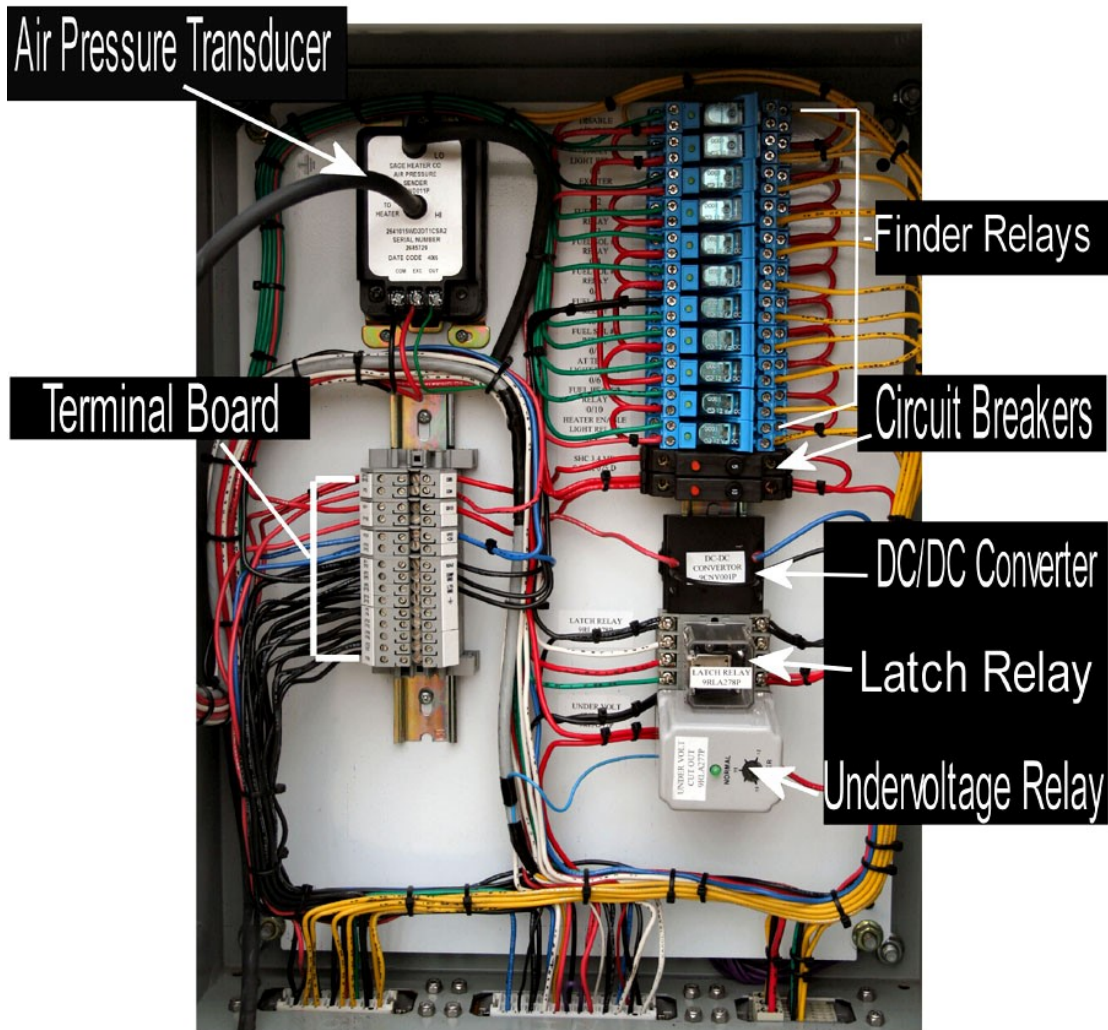

Figure 3-34. Heater components.
with the ECM. The first switch is the E-stop (emergency stop) button. The E-stop button will only shut down the heater system, not the auxiliary engine. The second switch is the power switch. *Do not* use the power switch as the primary method to activate the heater system, use the heater switch in the truck control panel. Figure 3-34 illustrates the location of components in the heater control box; refer to this figure as we cover the latch relay, undervoltage relay, and the direct current (DC)/DC converter.